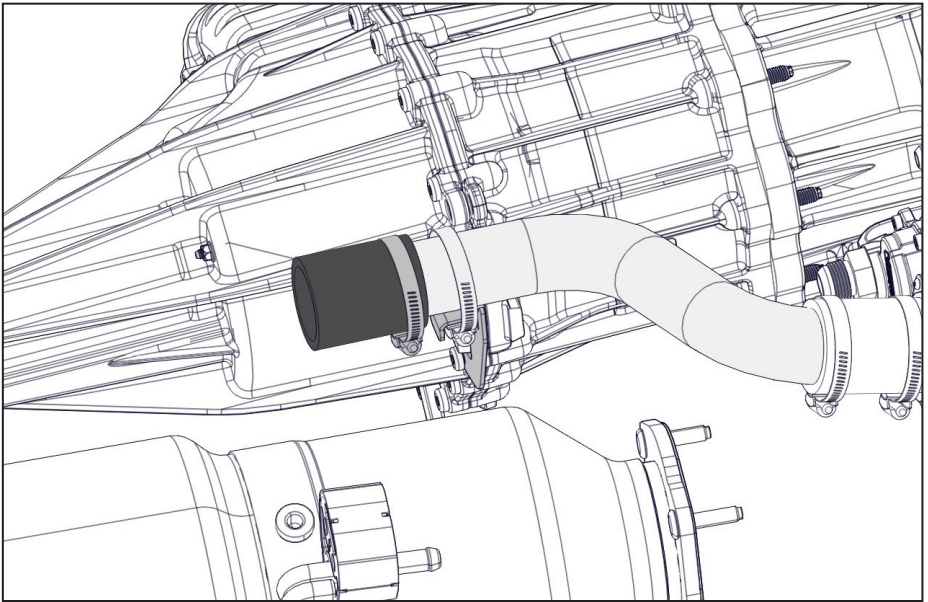

Figure 21 — Install intake hose
- Install the rubber air intake hose coupler onto the compressor side intake tube and secure it with a gear clamp (Figure 21).